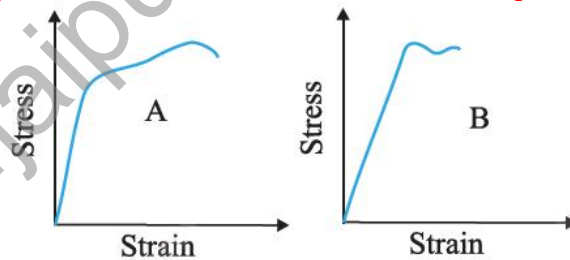

Fig. 9.12
9.3. The stress-strain graphs for materials **A** and **B** are shown in Fig. 9.12.